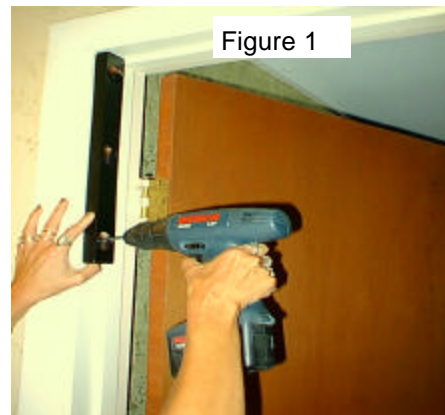

Figure 1
- Position the bracket on the door frame against the door stop molding, on the opposite side of the molding from the door (see figure 1). Put the side of the bracket with the three small holes against the door frame.